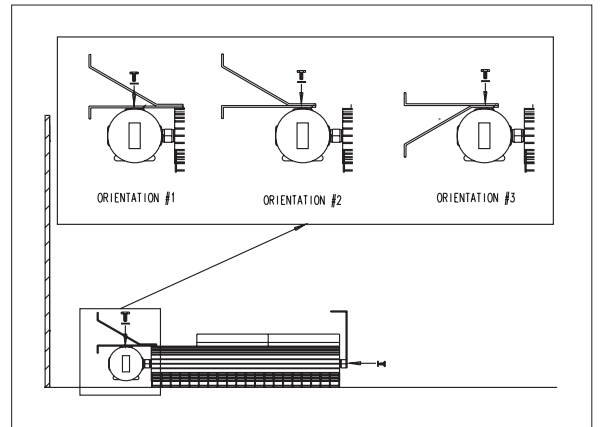

Figure 7 – Install mounting bracket to heater
Step 2: Fasten top stabilizing bracket(s) and floor mounting bracket(s) to the unit. Floor mounting brackets may be mounted in one of three orientations (Figure 7).